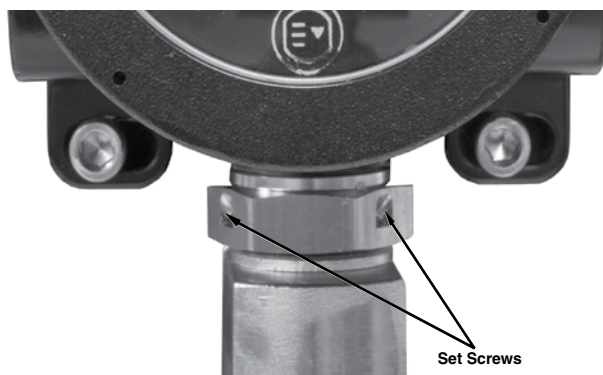

Figure 6—Location of Lock Nut and Set Screws
3. Tighten the set screws (minimum of two) to prevent movement of the lock nut. See Figure 6.